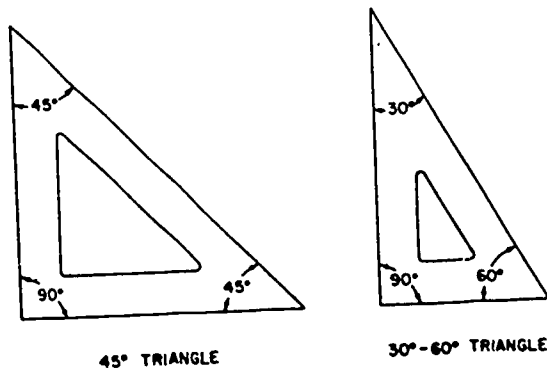

Figure 2-10. Standard triangles.
**Triangles.** Right-angle triangles are used in conjunction with the T-square or straightedge to draw vertical or inclined lines. The two standard types, as shown in figure 2-10, have acute angles of 45° and 45° and 30° and 60°.